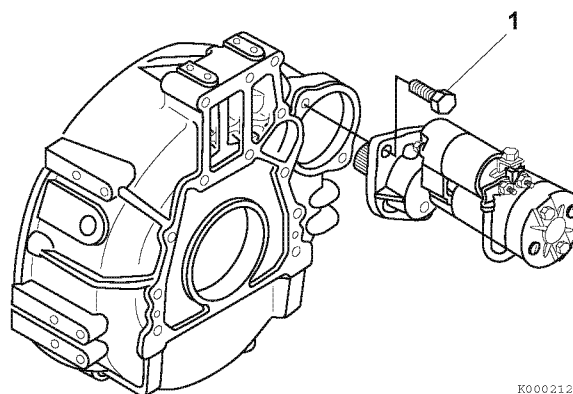

Figure 10-36
2. Reinstall the starter mounting bolts (**Figure 10-36, (1)**). Tighten the bolts to specification. See *Tightening Torques for Standard Bolts and Nuts* on page 4-25.